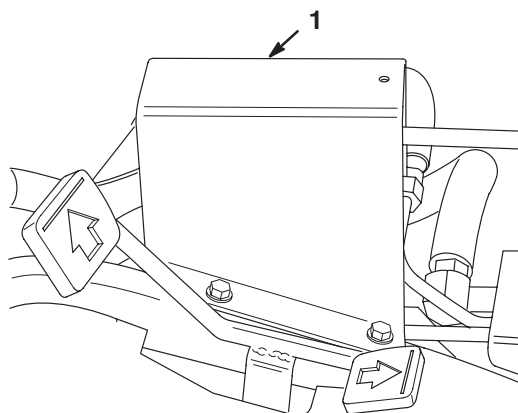

Figure 43
1. Place 1, 2, and 3 spools in neutral (center of travel) and remove the transfer rod guard from the foot panel (Fig. 43).